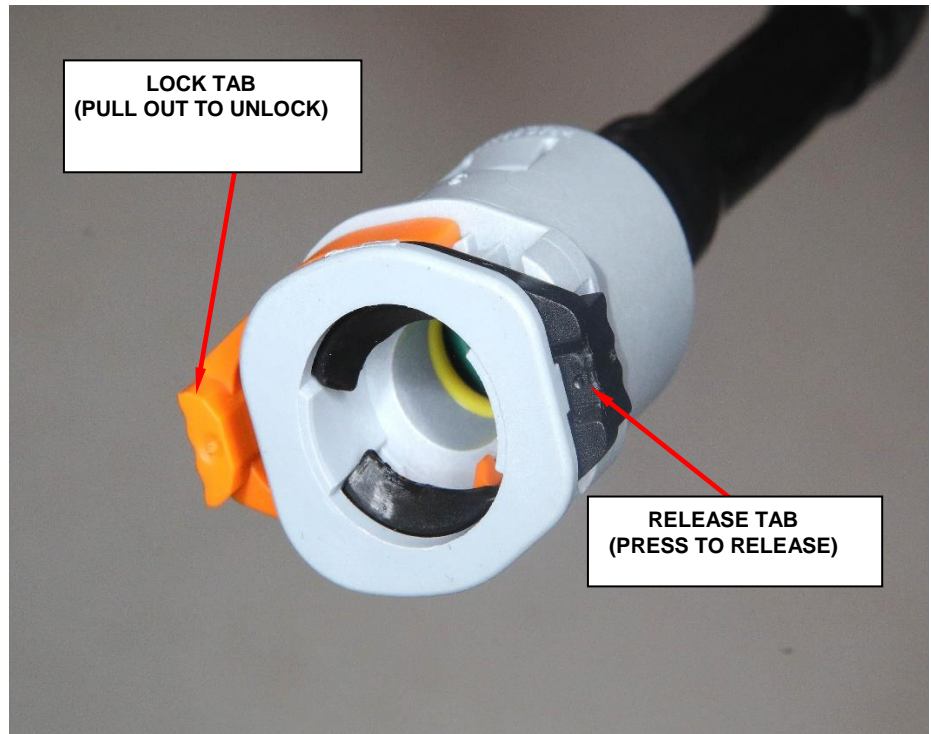

Figure 13 – Lower Fuel Line Lock
21. Unlatch the lower fuel line lock and press on the bottom of the lock to release the fuel line, remove the fuel line and **DISCARD** (Figure 13).